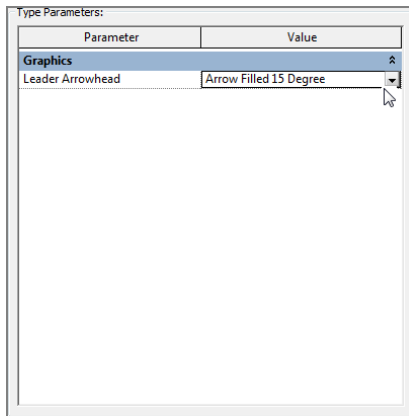

FIGURE 11.72: Changing the leader arrowhead is one of the first things you’ll probably have to do.
11. Change Leader Arrowhead to Arrow Filled 15 Degree, as shown in Figure 11.72.